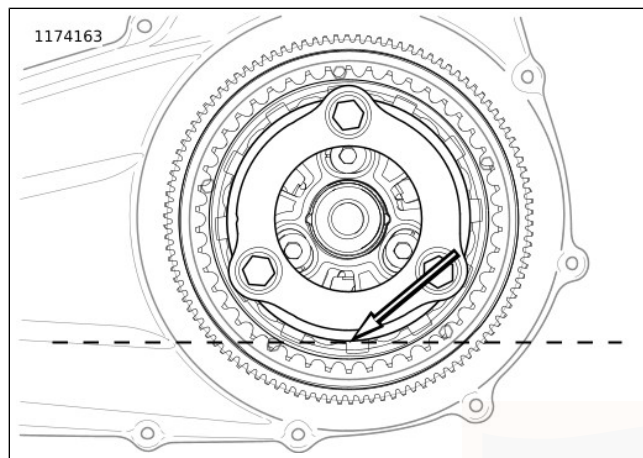

Figure 59. Primary Chaincase Lubricant Level
- b. See Figure 59. Proper level is approximately at bottom of pressure plate OD.